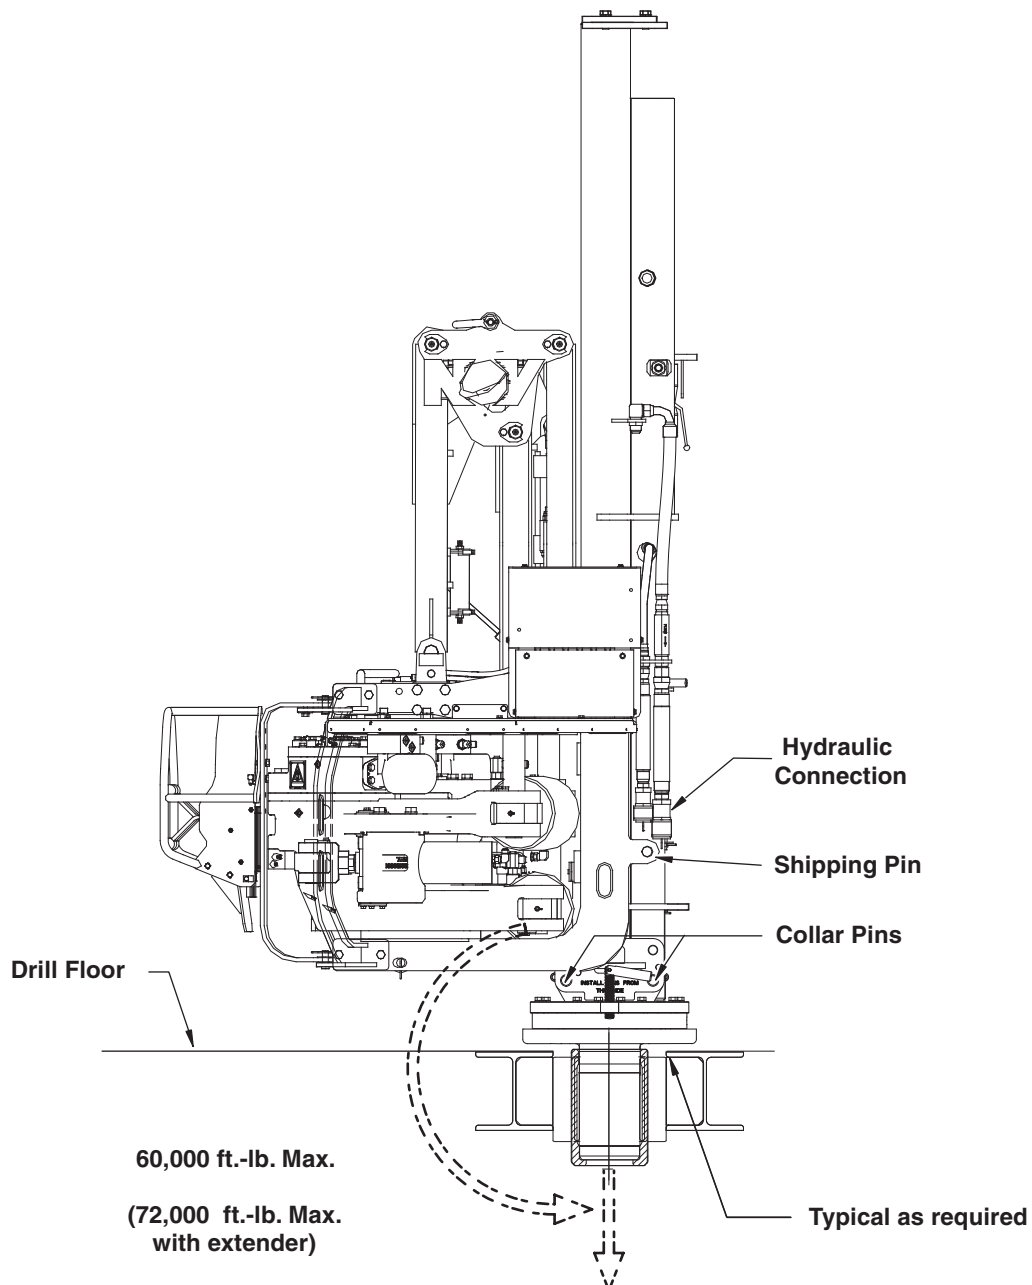

Figure 3-9. Floor Socket Installation and Loading
2. Align the bottom of the pedestal with the floor socket collar and insert the collar pins (2 places.) Refer to Figure 3-9.